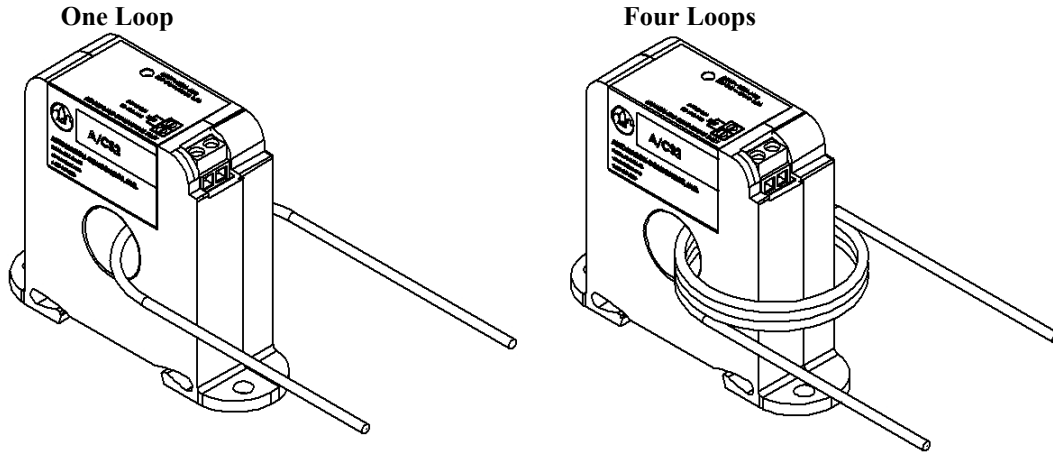

Figure 3: Wires Through Sensors
The conductor being monitored may be looped through the sensor multiple times. The loops increase the current measured by the current switch. Each time the conductor passes through the current switch window equals one loop (See Figure 3 below). To determine the proper number of loops required, take the rated Fixed Trip Point (see Figure 6) of the current switch and divide it by the Operating Current of the Monitored Device, add one (1), then round up to the nearest whole number. Example: When using the A/CS2, a small fan operating at 0.1A should be wrapped through the sensor four times to give you a total operating current of 0.4 Amps flowing through the A/CS2. Formula Example:  $(0.25A/0.1A) = 2.5 + 1 = 3.5$ , which rounded up equals 4 loops.
LED didn't turn on and the current switch didn't activate	Verify that the current flowing in the conductor being monitored is above the fixed trip point as listed in the operating specifications. If the sensor is monitoring less than the fixed trip point See Figure 3.